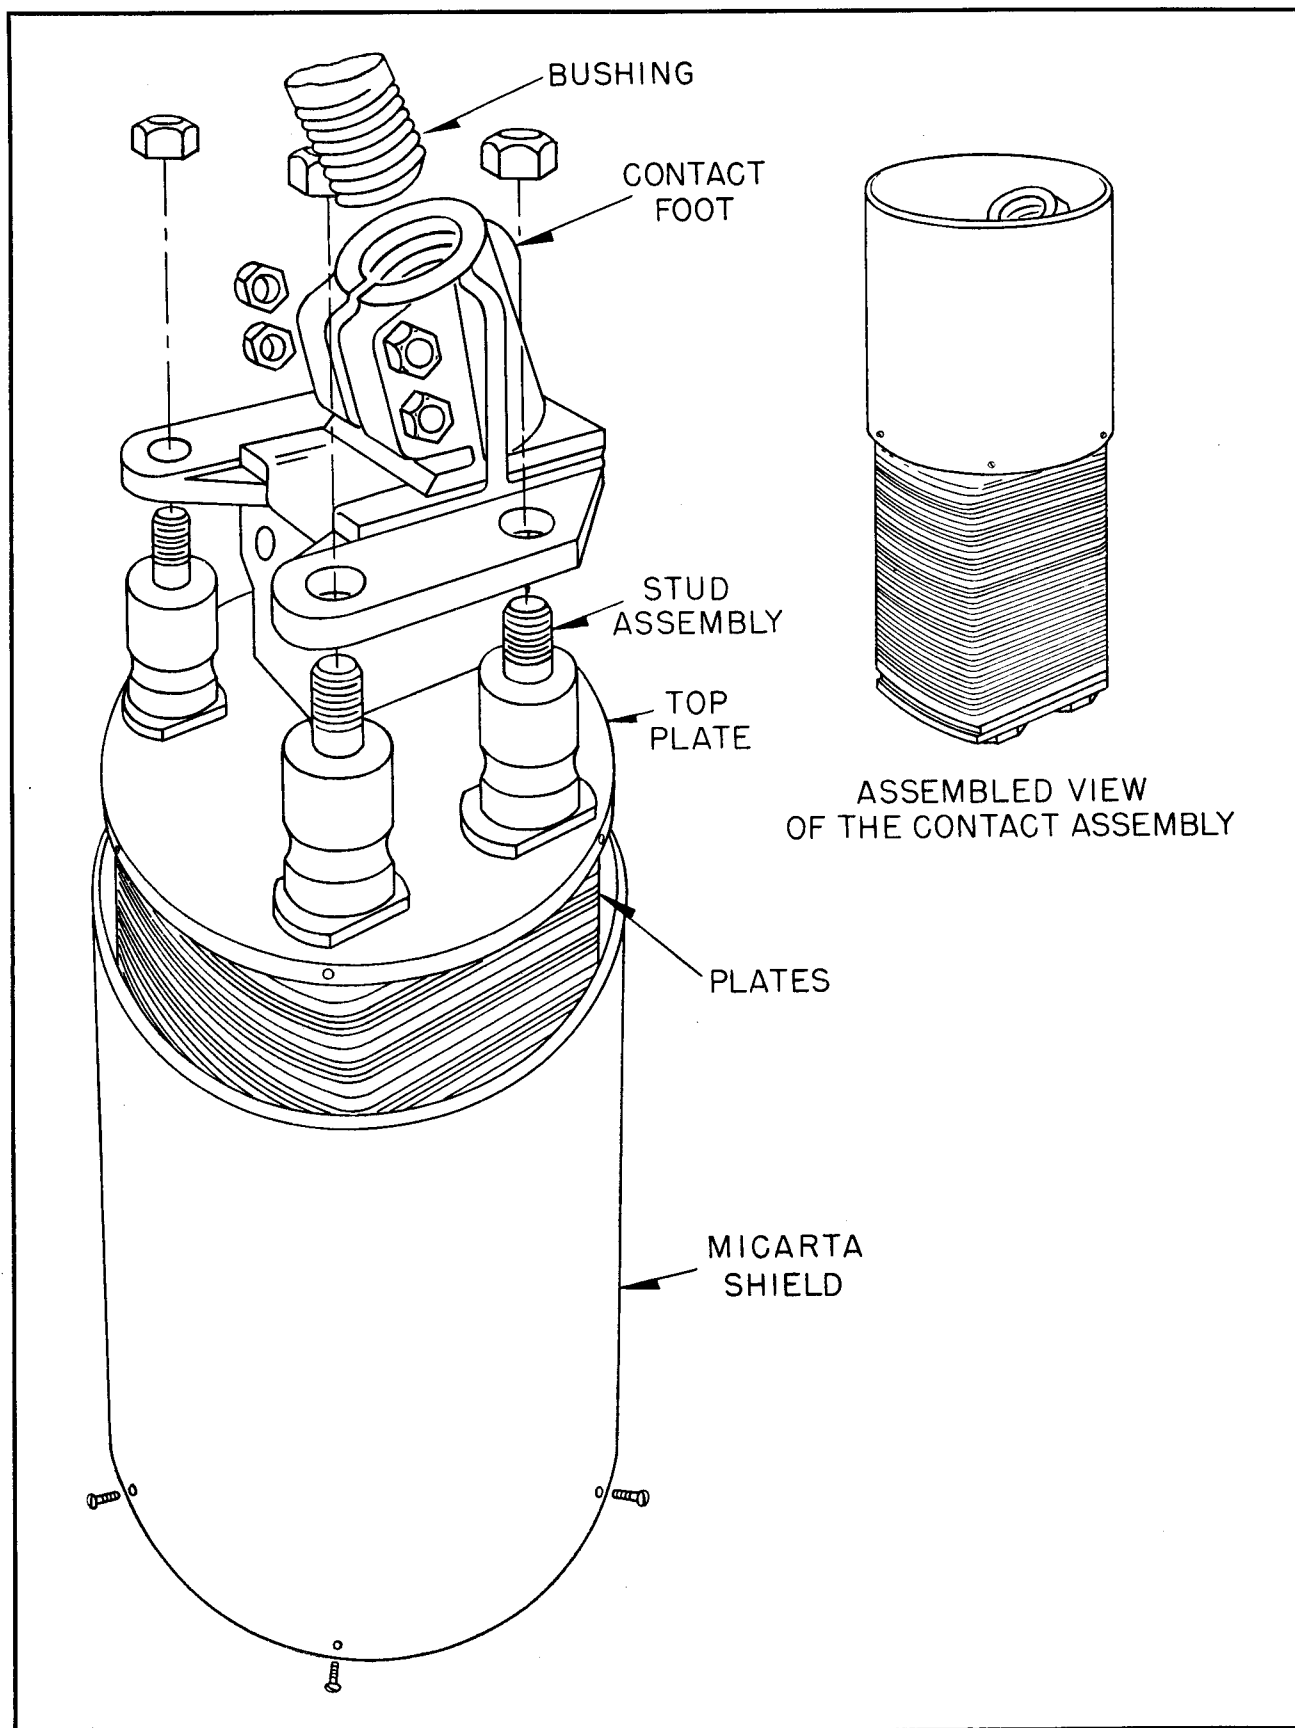

FIG. 9. Method of Disassembling the Stationary Contact Assembly
4. Close the breaker slowly by hand, checking to see that the lift rods and contacts are properly adjusted for correct alignment and that proper stationary contact compression or overlap is obtained when the breaker is closed. (See Figures 9 and 10.)
Stationary Contacts. The stationary contact assembly, including the "De-ion" Grid stack, is attached to the bottom of the condenser bushing in the steps shown in Figure 9. In most cases, especially with the larger grids, this is best accomplished by removing the contact foot from the grid before attempting to screw it onto the bushing. Care must be used in this latter operation to avoid cross-threading or other damage to the threads.
Final Adjustment of the Breaker Contacts. After all parts are in place, operate the breaker slowly by hand and adjust the various parts with respect to each other until proper contact, pressure or engagement is obtained. (See Figures 9 and 10.) Correct adjustment of the pole unit lever systems must be made so that the moving contacts and lift rods move freely in the slots of the "De-ion" Grids and the lift rods in the lift rod guides. After this is done, tighten all bushing flange bolts evenly and securely, tighten lock nut holding contact foot to bushing, replace insulating shield on stationary contact assembly and check all nuts and bolts on the stationary and moving contacts for tightness.